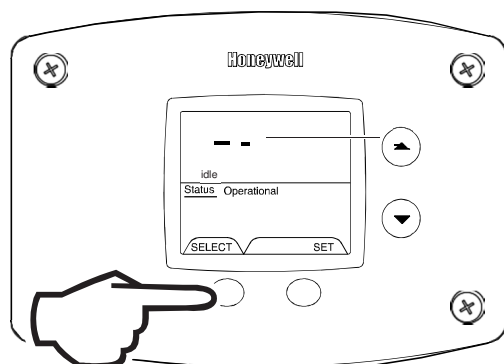

Figure 38
8. Error Code History (Displays if there are present error codes or up to 10 previous error codes). Water Heater Display will show -- if there are no error codes (Fig. 38).